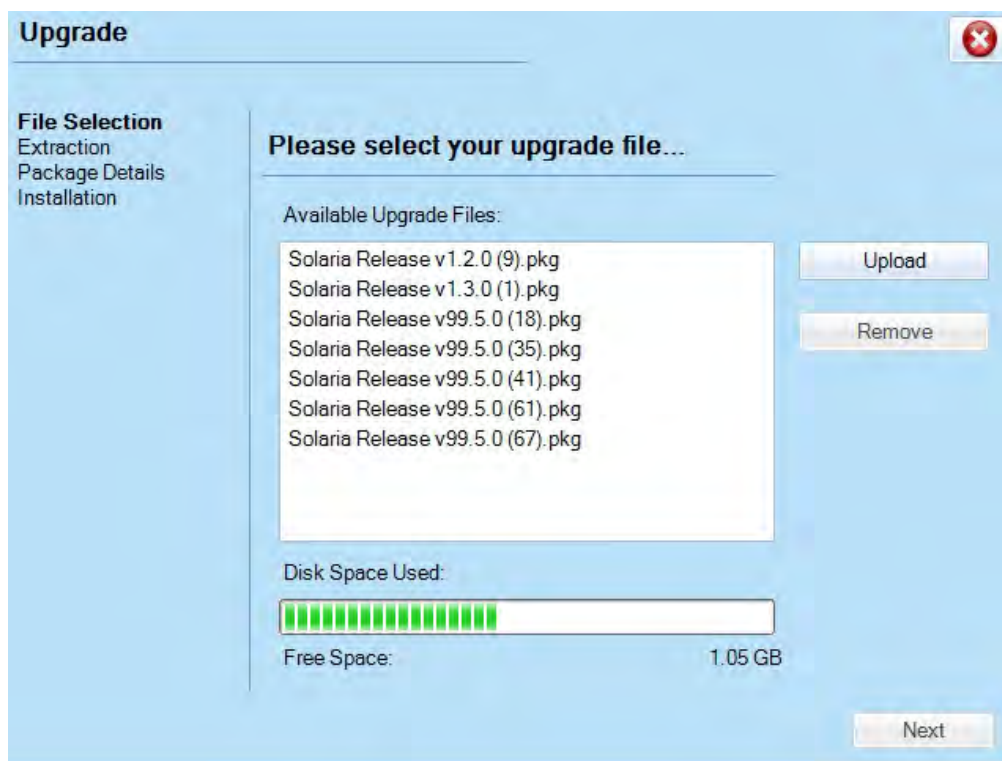

Figure 3-16 Upgrade: File Selection Window
- Insert the USB drive containing the upgrade package into one of the USB ports at the back of the TPC. Open the back cover to reveal the USB ports. Navigate to the **Administrator Setup: Marriage** window and tap the **Upload** button. (**Figure 3-16**). This launches a file selection dialog for you to navigate and select this file. Once complete, the system automatically advances to the **Extraction** window and begins extracting the upgrade package.
- From an FTP client, enter the projector IP address and enter the user name (ftpuser) and password (cds-ftp). Once connected, copy the upgrade package from the FTP site to the root folder of the projector. The upgrade package should display in the **Available Upgrade Files** region of the **File Selection** window. (**Figure 3-16**). Select the upgrade package and tap the **Next** button to advance to the **Extraction** window.